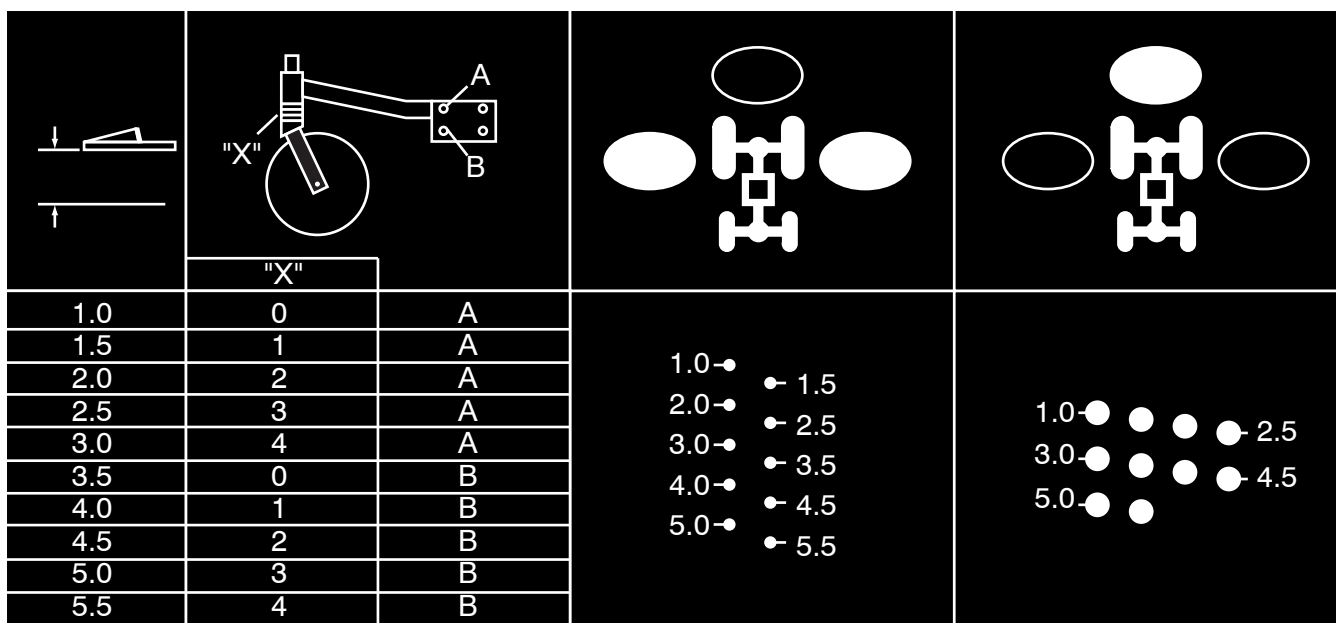

Figure 3M
2. **Figure 3M** shows the height adjustment decal for the casters.